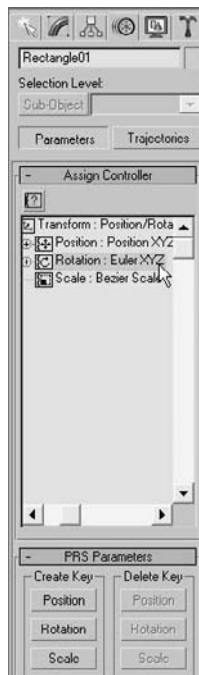
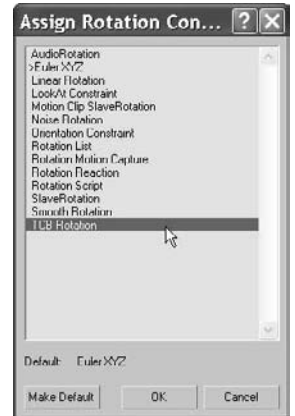

Figure 8.5
Figure 8.6
1. Select the square; you will start with that object. Switch to the Motion panel (click the Motion Panel tab (  ) in the Command panel, as you see in Figure 8.5. Open the Assign Controller rollout. You'll see that the Rotation controller for the square is set to Euler XYZ.
2. Select Euler XYZ from the list in the Motion panel, as shown in Figure 8.5. Click the Assign Controller button (  ) to open the Assign Rotation Controller window (Figure 8.6). Choose TCB Rotation from the list. If you do not first select the controller from the Controller List, the Assign Controller button will be grayed out and unusable.